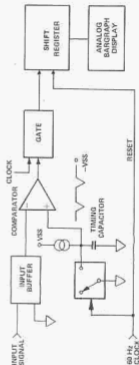

FIGURE 5-5. SIMPLIFIED BLOCK DIAGRAM
5.3.2 A simplified block diagram of the Bargraph Converter is shown in Figure 5-5. The bargraph converter is a single-slope, 60 sample per second, absolute value A/D circuit that interfaces with a 22-segment liquid crystal display.